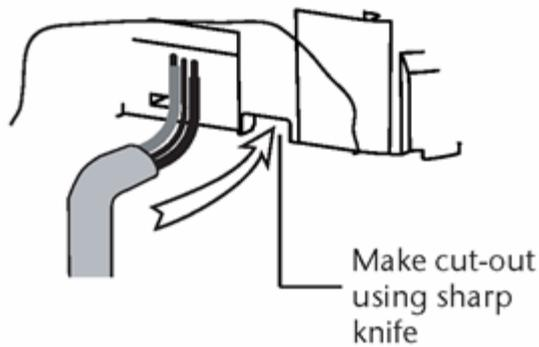

Figure 5 Bottom entry cable cut-out
- 4.8 Cable entry can be from the rear (preferred) or from the bottom. The backplate has cut-out position to suit size of cable. When opting for bottom entry make the cut-out to suit the cable before fitting the backplate to the wall -see figure 5.